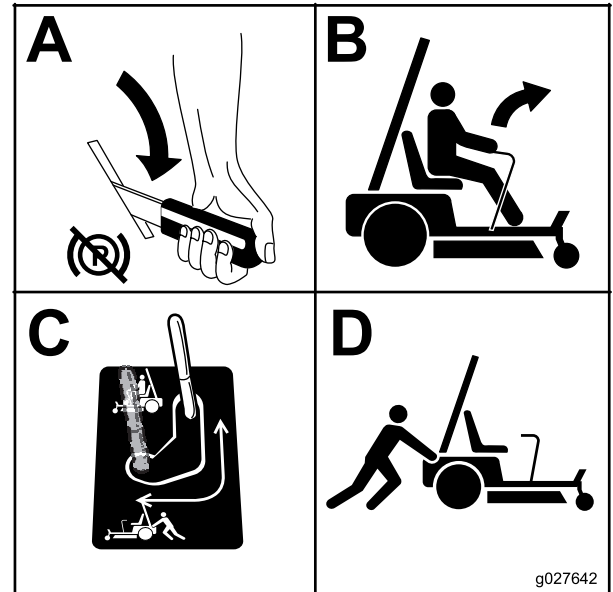

Figure 28
5. Move the bypass levers rearward and then down to lock them in place to disengage the wheel motors (Figure 28).
Move the bypass levers to the position for operating the machine (Figure 28) to engage the wheel motors.